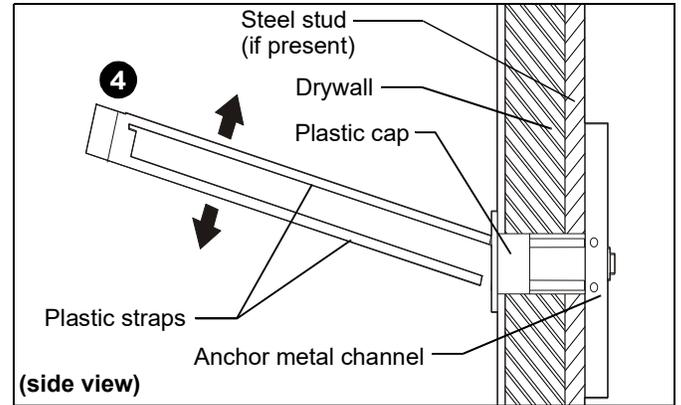

Figure 64
4. Snap off plastic straps on anchor at wall by pushing side to side, snapping off straps level with flange of plastic cap. (See Figure 64)